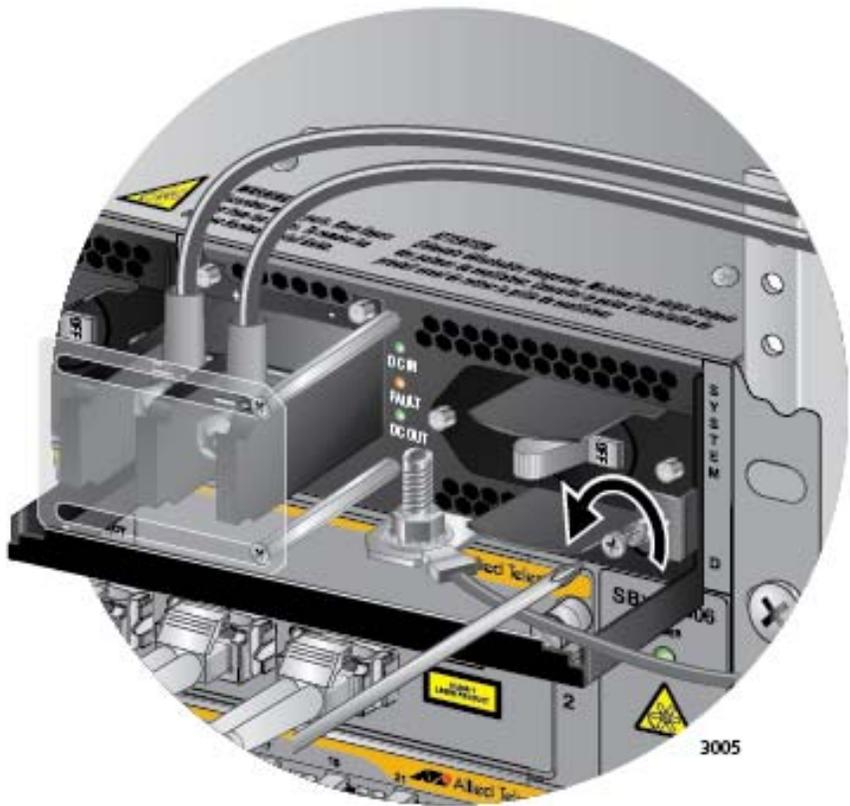

Figure 142. Loosening the Screw on the Locking Handle
3. Use a #2 screwdriver to loosen the screw on the locking handle. Refer to Figure 142.